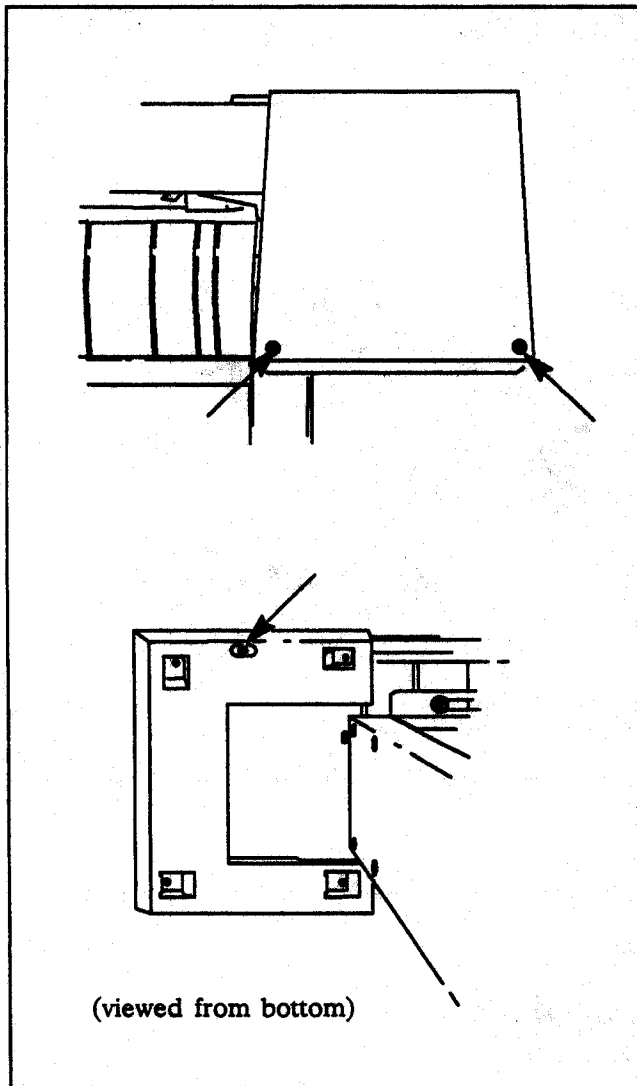

Figure 6-2. Left Chassis Cover Removal
- Turn OFF (0) the plotter and disconnect the ac line cord and the interface cable from the back of the right chassis.
- Remove the two machine screws from the lower back edge of the chassis cover. See Figure 6-2.
- Remove the machine screw centered under the front edge of the cover. See Figure 6-2.